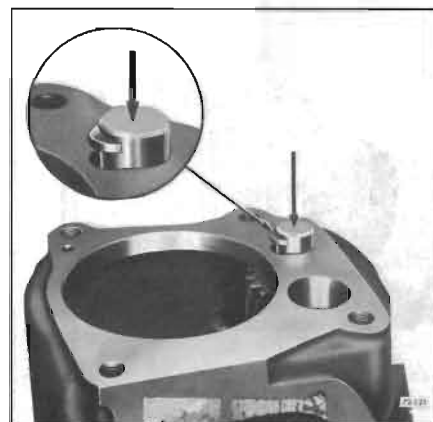

Figure 72-121—Installing Countershaft
6. With the transmission case resting on its front face, move countergear into mesh with main drive gear. Make certain thrust washers remain in place. Install woodruff key into end of countershaft and press shaft (Figure 72-121) until end of shaft is flush with rear face of transmission case.